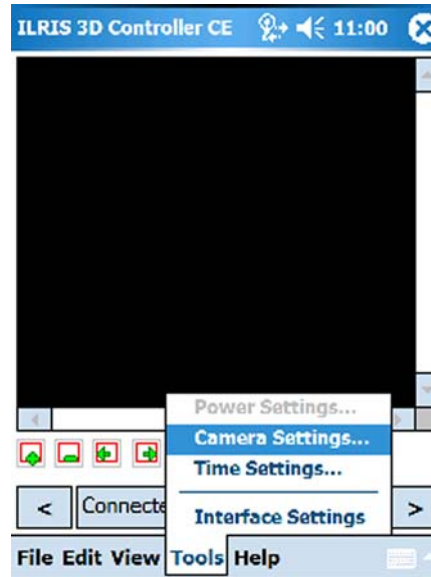

Figure 43: Configuring the camera settings
1. From the Controller main window, tap **Tools > Cameras Settings** (Figure 43). The Camera Settings window appears.